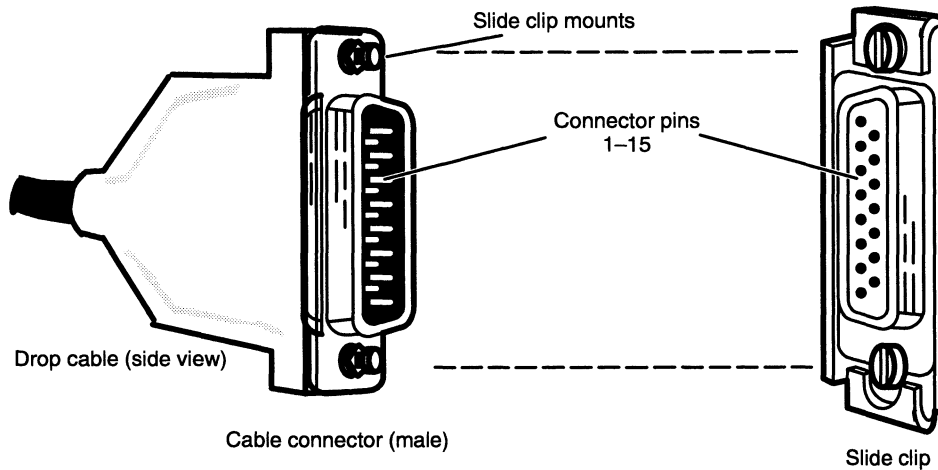

Figure 4-23 Aligning Slide Clip Mounts with a LAN Connector
- Align the connector pins, clip mounts, and D-shaped bevels as shown in Figure 4-23 before gently pushing the cable connector completely over the connector. Make certain the slide clip has not hindered a secure connection.